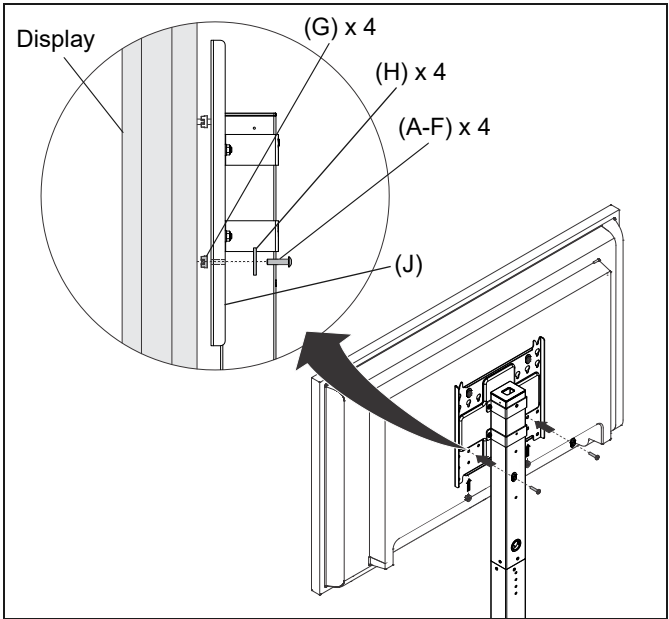

Figure 16
5. Select correct screws, nesting spacers (if necessary), and universal washers (if required) from the hardware bag (A-H) and attach display to two lower mounting holes in face plate assembly (J). (See Figure 16)